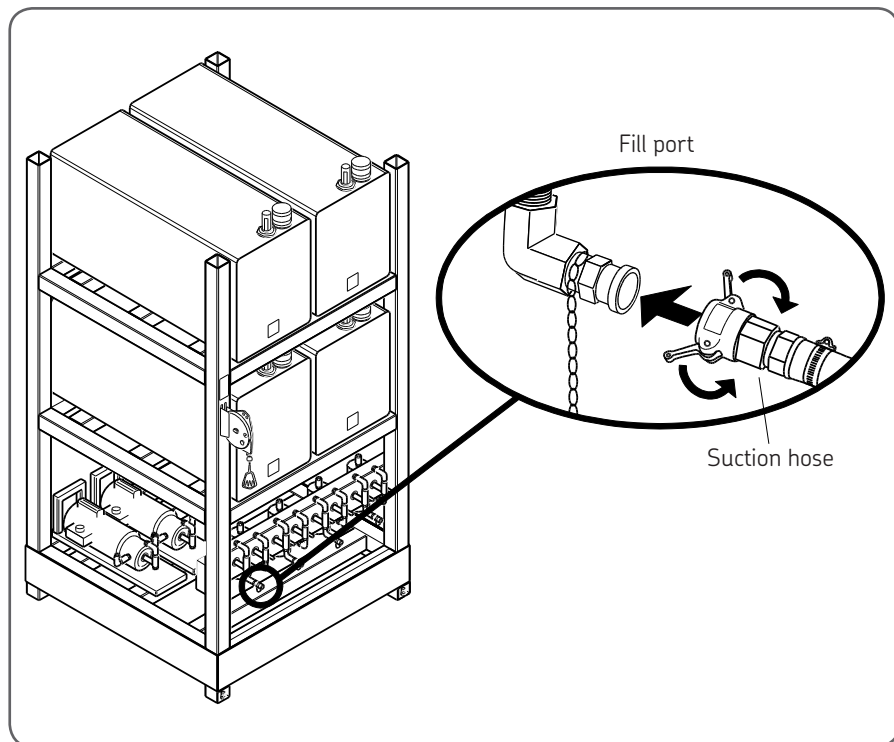

Fig 15 Attach suction hose assembly to fill port inlet
5. Attach the coupling-end of the suction hose assembly to the front of the unit. See figure 15.